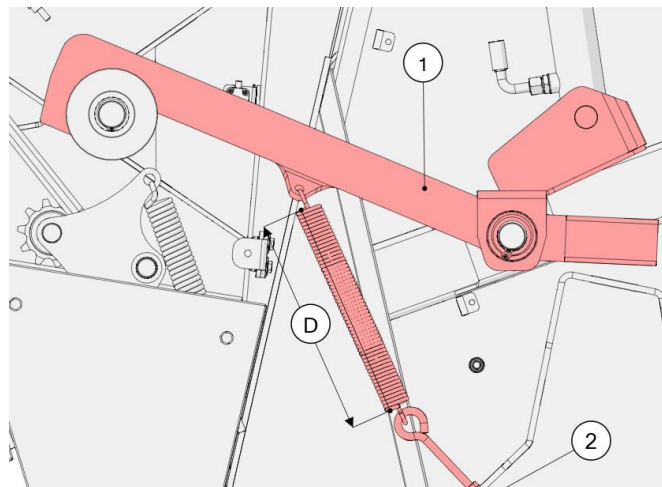

Figure 60. Adjusting the lock
- Adjust the lock (1) by turning the nut (2) so that the distance is $D = 300$ mm, as shown in Figure 60;